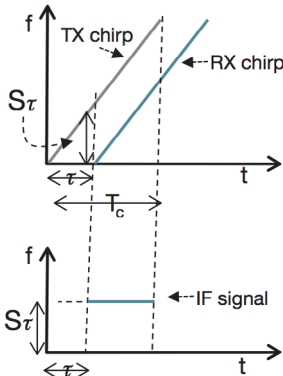

Figure 4: IF frequency is constant (Photo: TI)
The fundamental concept in radar systems is the transmission of an electromagnetic signal that objects reflect in its path. In the signal used in FMCW radars, the frequency increases linearly with time. This type of signal is called a chirp. Figure 2 shows a representation of the chirp signal with magnitude (amplitude) as a function of time on the right. On the left, Figure 2 displays the same chirp signal with frequency as a function of time. The chirp is characterized by a start frequency (f_c), bandwidth (B), and duration (T_c). An FMCW radar system transmits a chirp signal and captures the signals reflected by objects in its path. Figure 3 represents a simplified block diagram of the main RF components of the FMCW radar; Figure 4 shows IF frequency.
The frequency mixer is an electronic component that combines two signals to create a new signal with a new frequency. The operation of the frequency mixer can also be understood graphically by looking at TX and RX chirp frequency representation as a function of time (Figure 4). The upper diagram shows TX and RX chirps as a function of time for a single object detected. Notice that the RX chirp is a time-delay version of the TX chirp. To obtain the frequency representation as a function of time of the IF signal at the output of the frequency mixer, subtract the two lines presented in the upper section of the figure. The distance between the two lines is fixed, which means that the IF signal consists of a tone with a constant frequency. The IF signal is only valid in the time interval, in which both the TX chirp and the RX chirp overlap. The mixer output signal as a magnitude function of time is a sine wave, since it has a constant frequency.